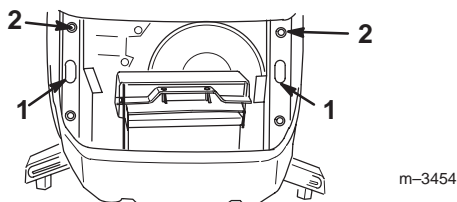

Figure 2
Important Never raise the front of the tractor by placing a jack under the bumper or front axle because the tractor may be damaged. The front hood support braces have two slots (Fig. 2) that may be used to lift the tractor to install the front wheel spindles. To access these slots, remove the front grill and raise the hood.
2. Remove, or be careful not to damage, the two upper grill grommets (Fig. 2).